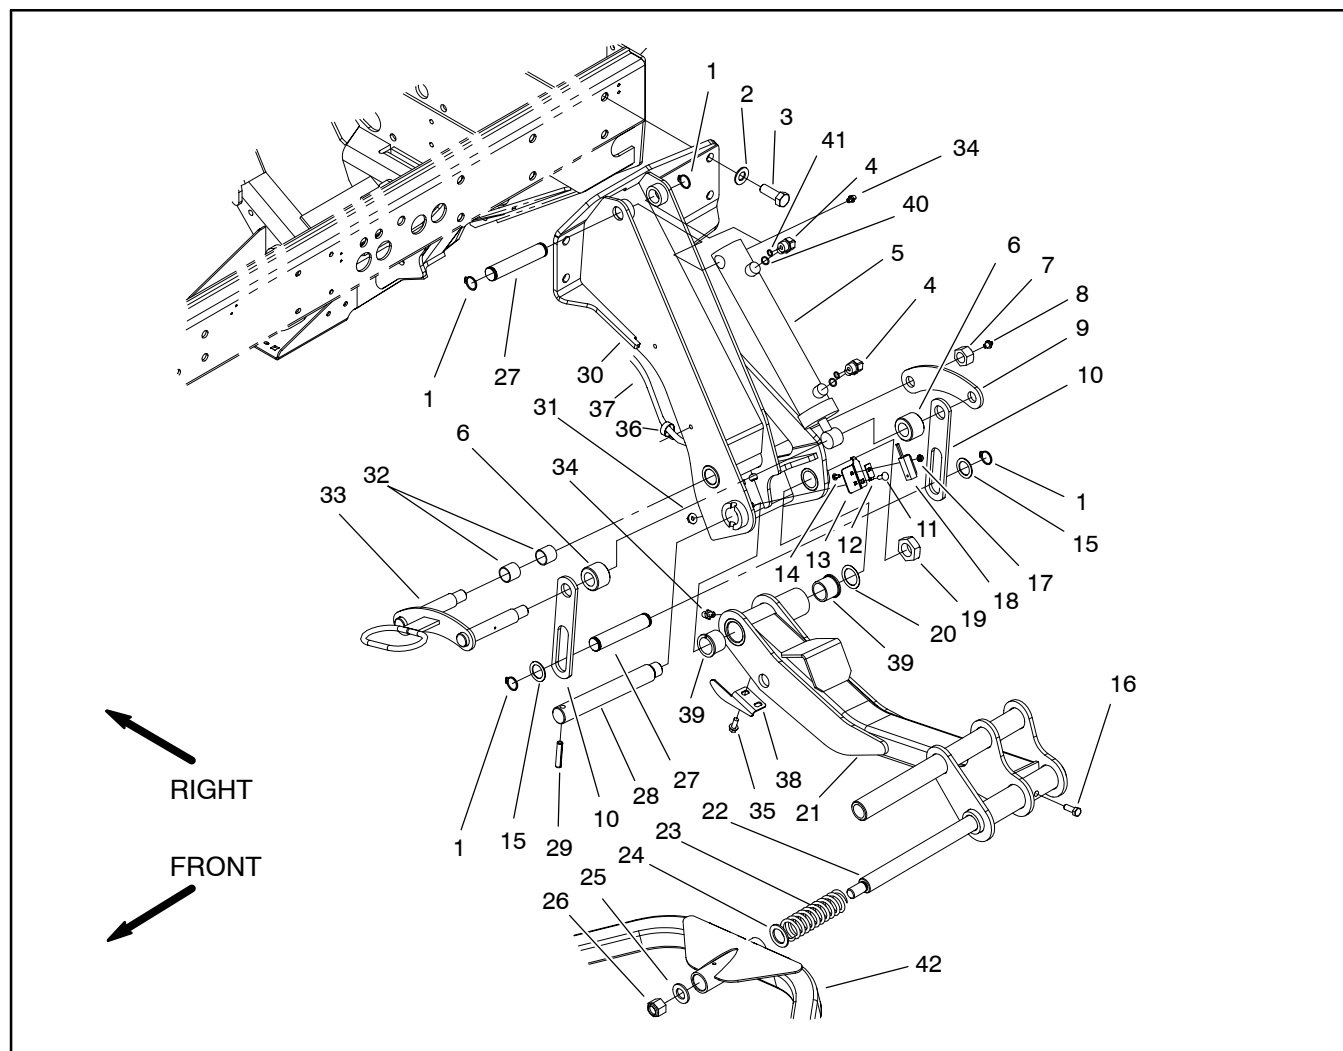

Figure 8
1. Position lift arm to support arm (Fig. 8). Fit thrust washer between rear of lift arm and support arm. Slide pivot pin into support arm and lift arm. Align roll pin in pivot pin with slot in support arm flange.